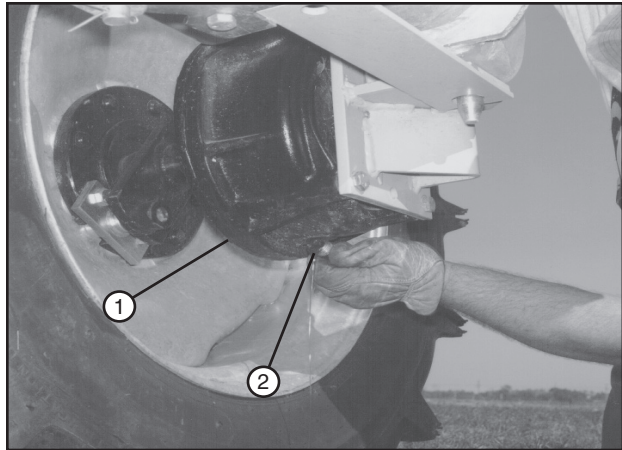

Figure 92-1 1. Wheel Gearbox
3. Remove the drain plug from the bottom of the wheel gearbox and drain the oil into a container. See figure 92-1.